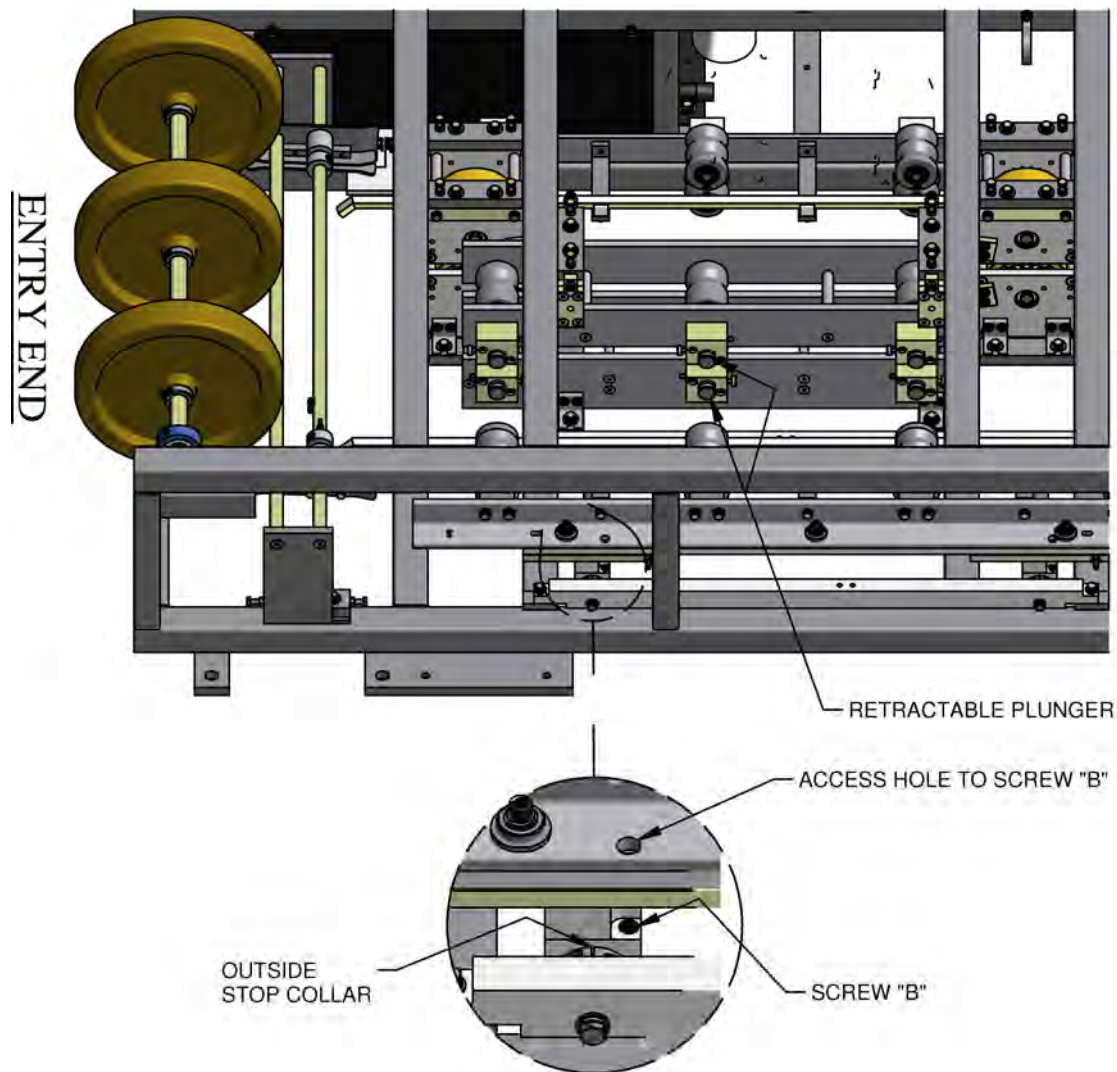

Figure 16: Width Change Fasteners
1. Position the Center Tooling (Figure 16)
2. Position the Right Side Tooling (Figure 16):